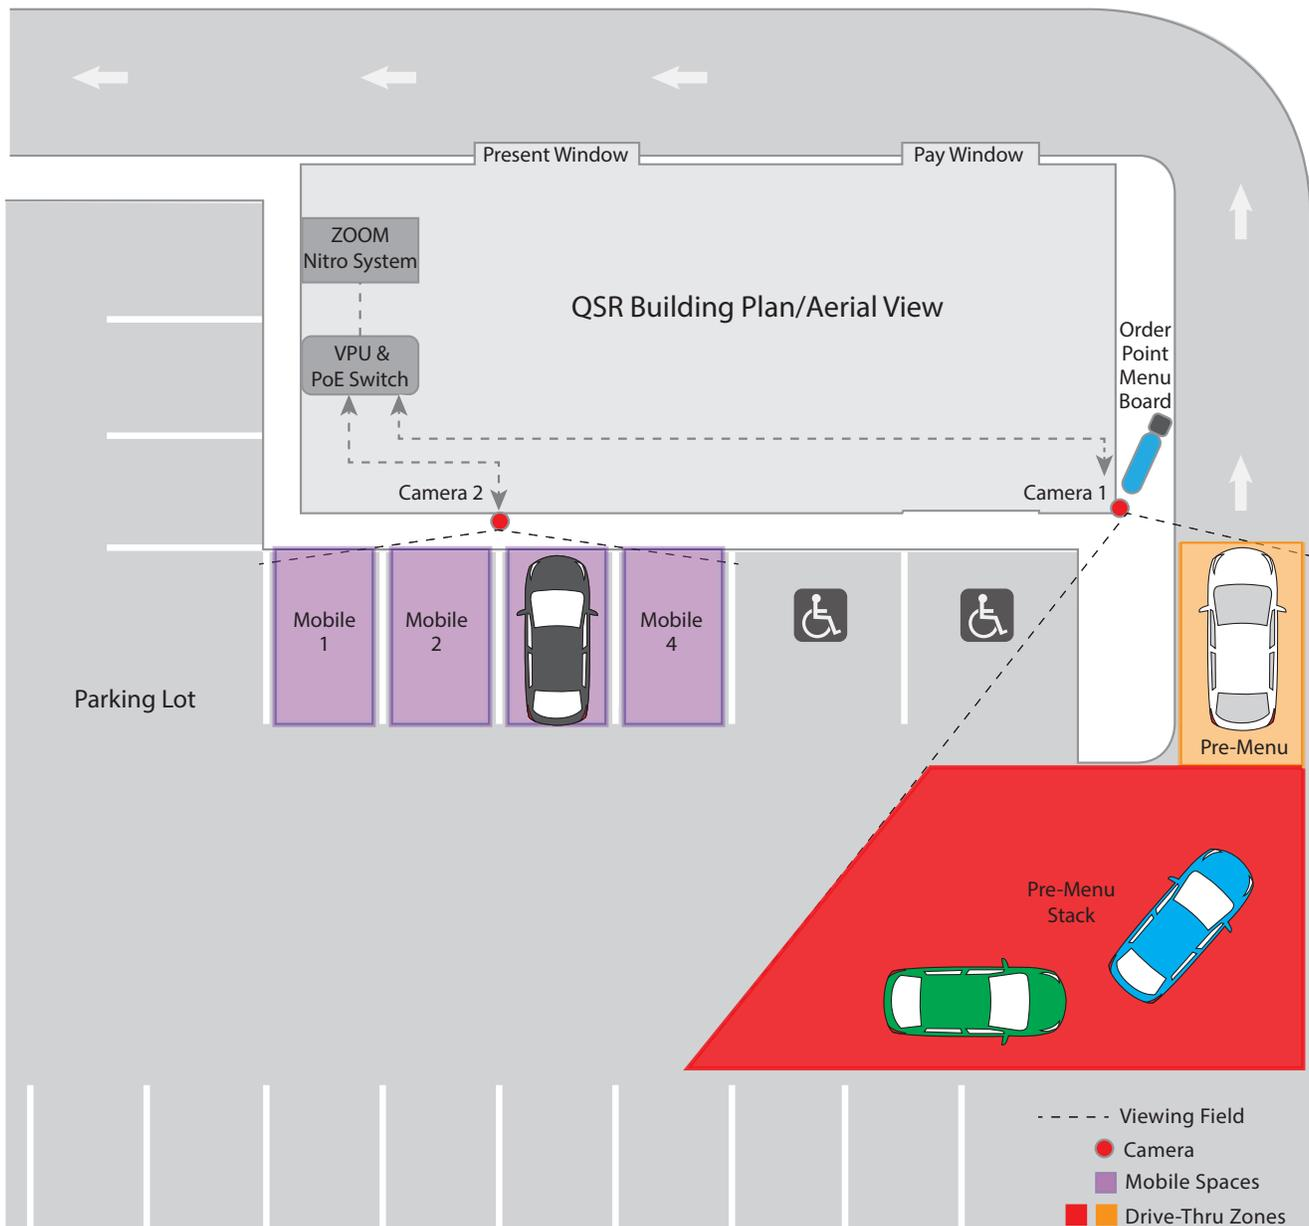

Fig. 1
Cameras are used to detect and track vehicles in a drive-thru or in a mobile space. Fig 1 shows an example of both. Camera 1 tracks cars in the drive-thru, while Camera 2 is used for mobile spaces.
Pre-Menu Stack: (The red area in Fig. 1.) This is an area behind the pre-menu where customers can potentially exit the lane and drive off if they decide not to wait.
Pre-Menu: (The orange area in Fig. 1.) This is the area where a single car next in line is waiting just before reaching the order point.
Captured lanes: These lanes have a physical boundary along the lane, which prevents cars from pulling out of the lane and driving off. These boundaries can be curbs, walls, railings, or hedging. (Fig. 1 has curbs). Captured lanes are also narrow enough so that a car cannot overtake the car in front of it. The only way a car can escape a captured lane is by reversing out of it.
Purple areas in Fig. 1. Camera's should be installed to see as many mobile spaces as possible, up to four per camera. Cameras should be positioned to view the front or back of mobile spaces since side views can be problematic due to obstruction issues. For example, a large (tall) car occupying the closest parking space to a camera with a side view, might prevent the detection of cars occupying the other available spaces because they are blocked from view by the large vehicle.
- If cars turn as they move first through the Pre-Menu Stack and into the Pre-Menu zone (as in Fig. 1), it is best if the camera is positioned to see cars from the side and from the front.